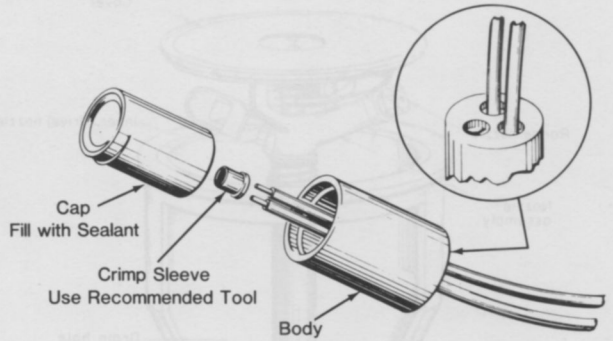

Figure 2-7
5. Bad wire connections (see Fig. 2-7 for proper connection)